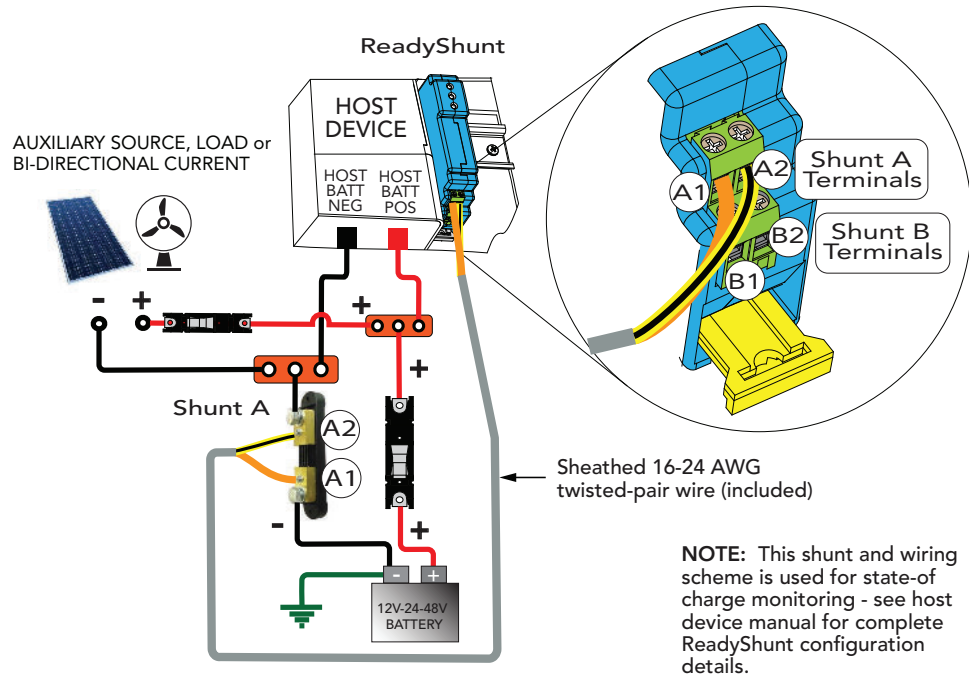

Figure 5-3. Shunt Block Net Battery Current Wiring Example
- 4) Net - the shunt is in the battery leg and is measuring net current into and out of the battery (due to charging and DC loads). A Net shunt provides state-of-charge (SOC) monitoring in addition to SOC programming options. See Figure 5.3 in this manual, and also host device manual, for complete ReadyShunt SOC configuration details.
For a system with a negative leg shunt(s), connect the yellow/black stripe (twisted-pair) wire to the charging/load side of the shunt, and then connect the other end to the A(2) or B(2) ReadyShunt terminal (see **exploded view** of terminals in Figure 5-3, 5-4 and 5-5).
Refer to Figures 5-3, 5-4 and 5-5 for common application schematics. Busbars are shown for clarity, and actual wiring may vary.